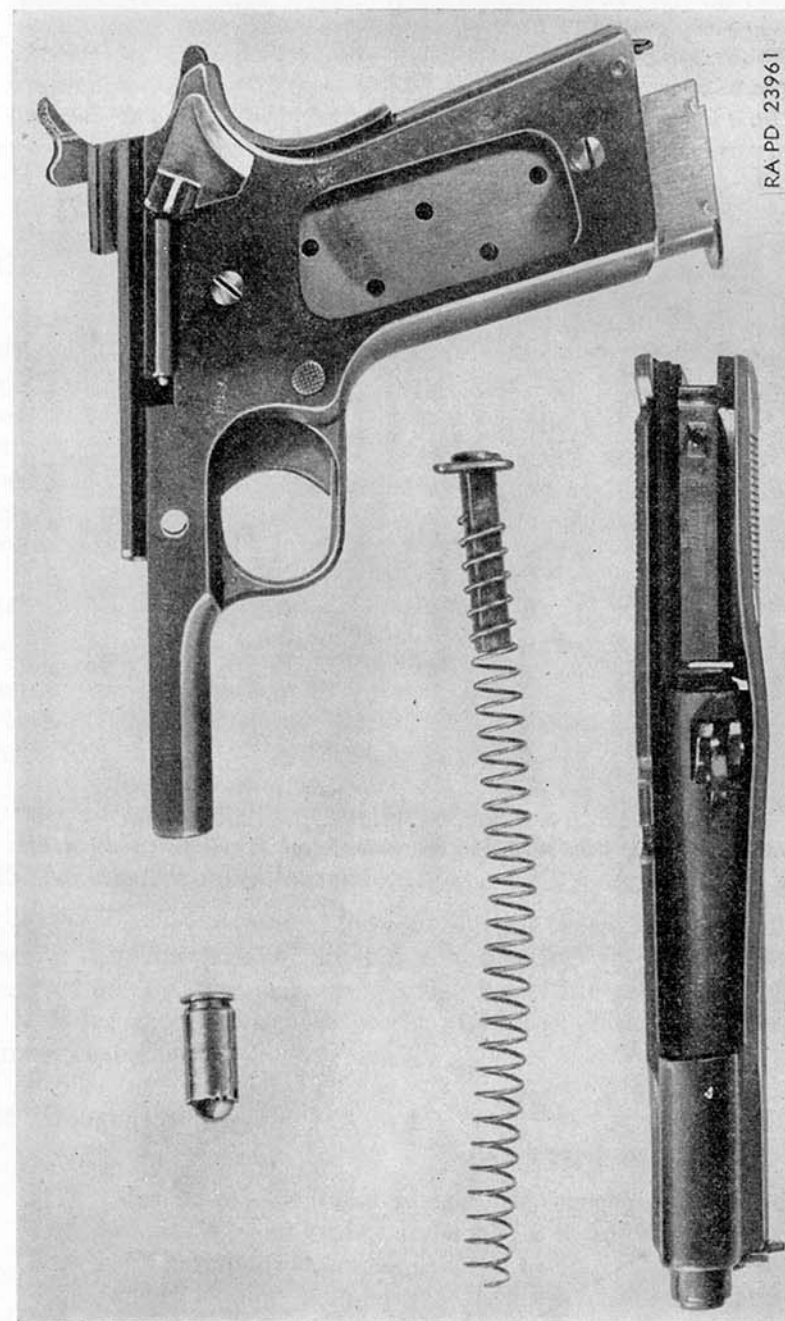

Figure 9. Damage caused by firing with grease in chamber and bore, cal..45 automatic pistol M1911.
- (1) Figure 9 shows a pistol in which a normal round was fired with grease in the chamber and breech end of the bore. The chamber pressure that developed was sufficient to rupture the head of the cartridge case, releasing the powder gases into the action. Note the bulged slide and the damaged top round from the magazine.